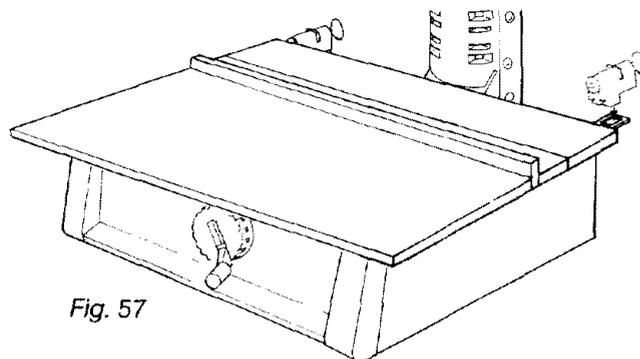

Fig. 57
3. Tilt clamp bracket forward and snap in place in rectangular shaped hole at back of table support. (Figure 57)